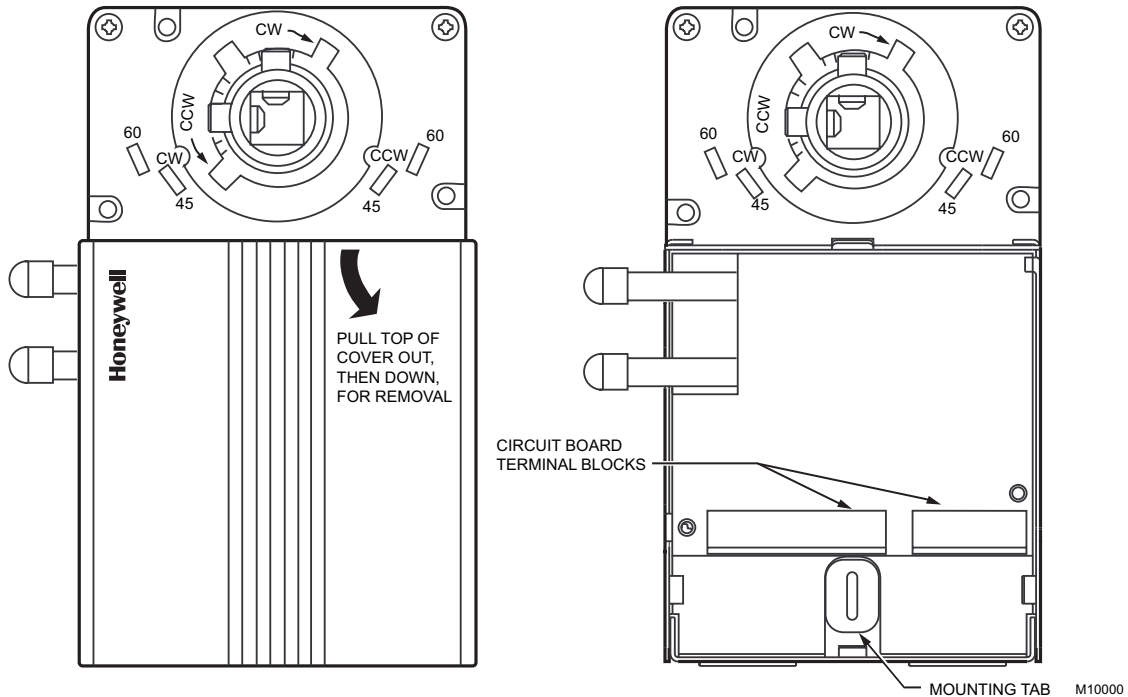

Fig. 3. Cover removal and mounting tab/terminal block access.
The W7751H assembly is field mounted to the VAV box damper shaft, the same as used for a typical actuator. The actuator on the W7751H opens or closes a damper by driving the damper shaft in either the counterclockwise (CCW) or clockwise (CW) direction. The actuator has a mounting tab on the bottom for securing to a VAV box damper. The mounting tab is accessible through a hole in the controller with its cover removed (see Fig. 3). The tab is sized for a 1/4 in. (6 mm) screw or pin (not included).